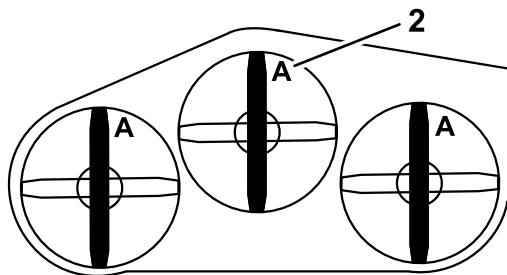
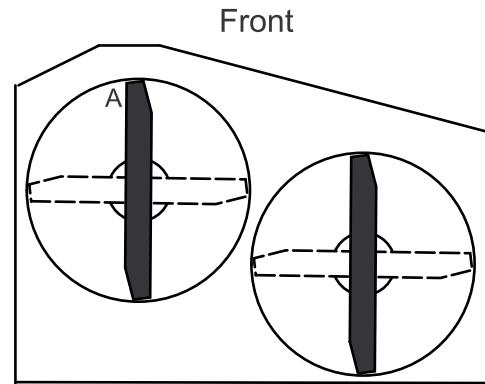

Figure 71
Figure 72
3. With the machine on level surface, position one blade front-to-rear. Measure at **A** and from level surface to the cutting edge of the blade tips (Figure 71). For 36 inch mower decks use Figure 72.